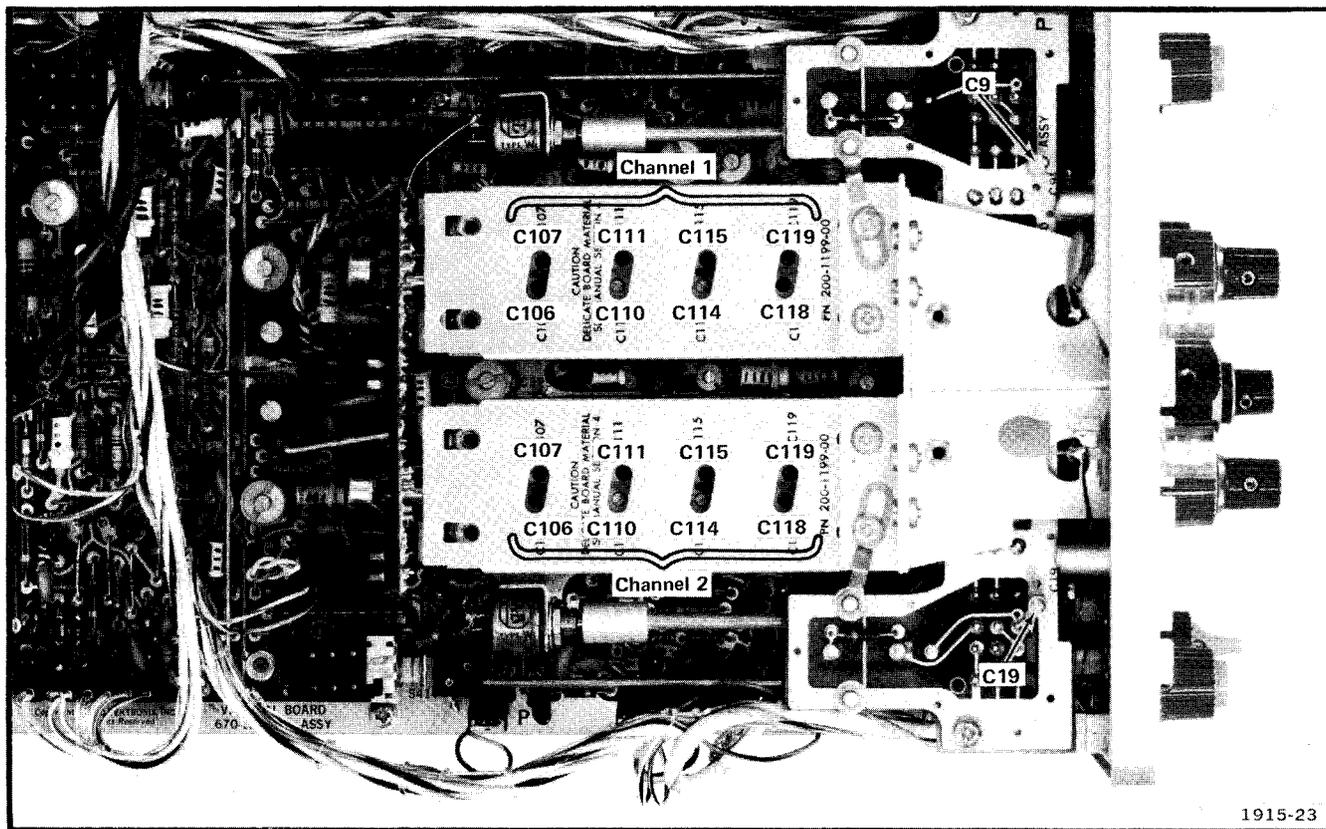

Fig. 5-5. Location of CH 1 and CH 2 Switch Compensation Adjustments.
- f. ADJUST—Channel 1 VOLTS/DIV switch compensation as given in Table 5-2. Adjust for optimum square corner and flat top. Remove the 10X attenuator and/or 50 Ω BNC termination as necessary to maintain a 5-division display amplitude. Fig. 5-5 shows the location of the variable compensation adjustments.
e. ADJUST—Channel 2 VOLTS/DIV switch compensation as given in Table 5-2. Adjust for optimum square corner and flat top. Remove the 10X attenuator and 50 Ω BNC termination as necessary to maintain a 5-division display amplitude. Fig. 5-5 shows the location of the variable compensation adjustments.